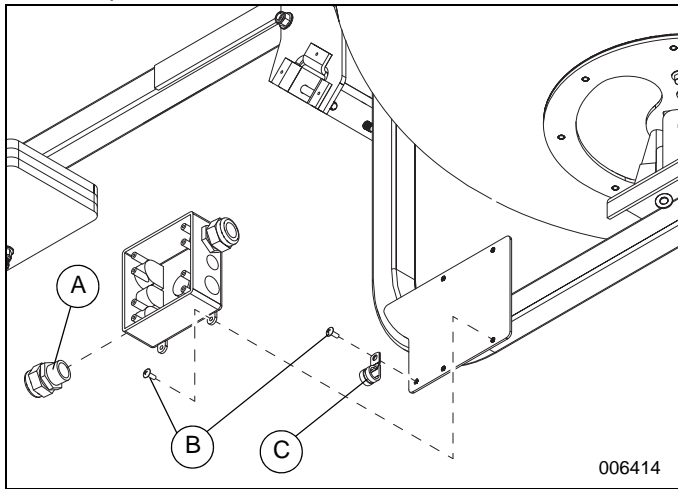

Figure 12. Junction Box Installation
8. See Figure 12. Install strain relief to junction box. Install coil-cord to tubing clamp, then install tubing clamp as shown.
- See Figure 12. Install strain relief to junction box. Install coil-cord to tubing clamp, then install tubing clamp as shown.